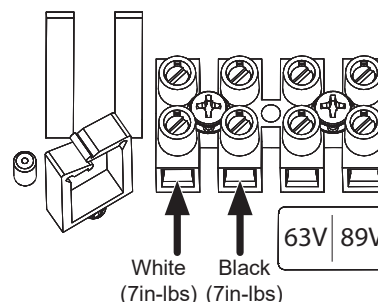

Fig. 2, Output Voltage Terminal Block
4. Remove the output voltage wires from the terminal block, see Fig. 2.
12. Connect the dual output voltage wires, to the output voltage terminal block as shown, see Fig. 2. Torque terminal block screws to 7in-lbs (0.79N-m).